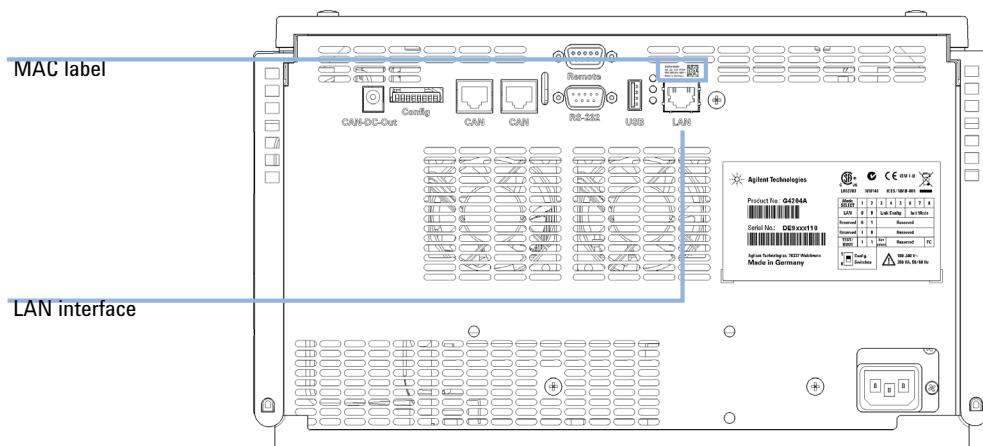

Figure 35 Location of LAN interfaces and MAC label
- 1 Note the MAC (Media Access Control) address for further reference. The MAC or hardware address of the LAN interfaces is a world wide unique identifier. No other network device will have the same hardware address. The MAC address can be found on a label at the rear of the module underneath the configuration switch (see Figure 35 on page 268).
- 2 Connect the instrument's LAN interface (see Figure 35 on page 268) to